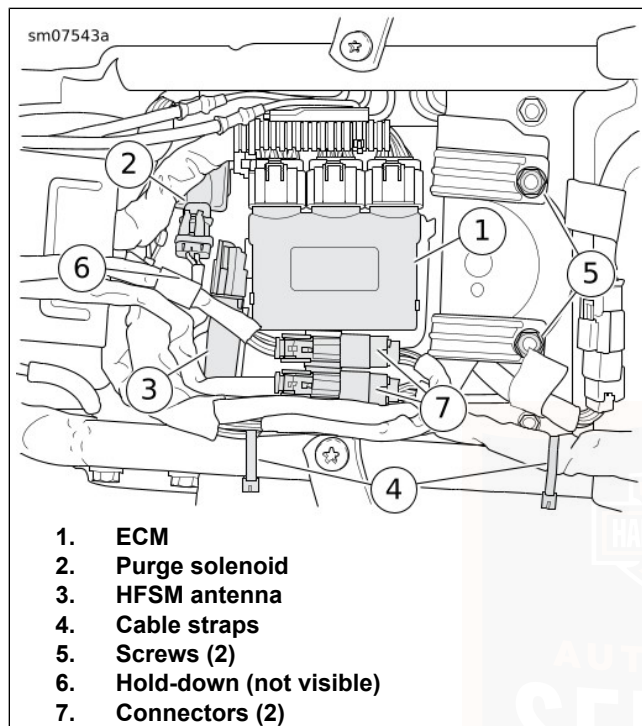

Figure 89. Top Caddy
2. See Figure 89. Release ECM (1) from top caddy. Move out of the way.
3. If present, move purge solenoid (2) forward to release from top caddy.
4. **Models with security system:** Release HFISM antenna (3) from top caddy and move out of the way.
5. Release connectors (7) from anchors on top caddy.
6. Remove fasteners (5).
7. Cut cable straps (4). Move harnesses to allow more clearance for the top caddy.
7. See Figure 89. Place top caddy into position and engage latch on hold-down bracket.
8. Fasten top caddy to frame crossmember with fasteners (5). Tighten.